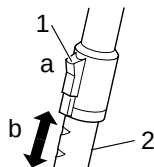

Fig. 3
5. For appliances with optional telescopic tube: Adjust the length of the telescopic tube. To do this, press the telescopic tube lock (Fig. 3/1) down (Fig. 3/a). Then pull the telescopic tube by the lower part (Fig. 3/2) to the desired length (Fig. 3/b). To lock it, release the telescopic tube lock when you let go. You will hear an audible click.